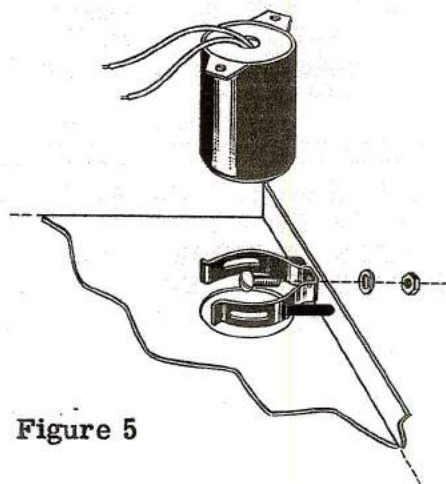

Figure 5
- (✓) Secure a spring clip to the right hand chassis flange at location N, with a small 6-32 x 3/16 screw. The head of the screw goes inside the chassis, through the holes provided in the spring clip, the mounting hole in the flange, a #6 lockwasher and nut. Observe Figure 5. Do not use a 6-32 x 3/8 screw, for it will protrude too far and make it difficult to install the instrument in its cabinet when completed.